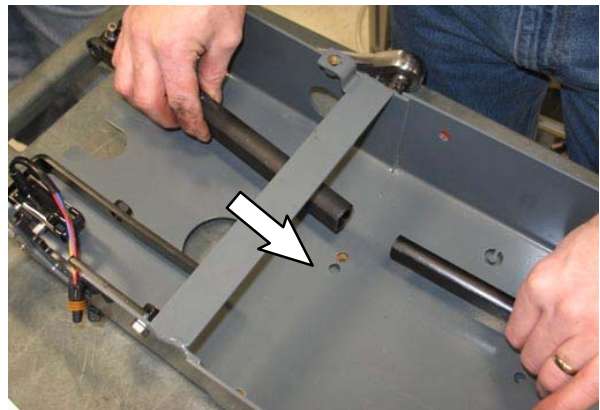

FIG. 59
20. Slide the bottom portion of the steering shaft back onto the steering shaft (1). (Fig. 59)